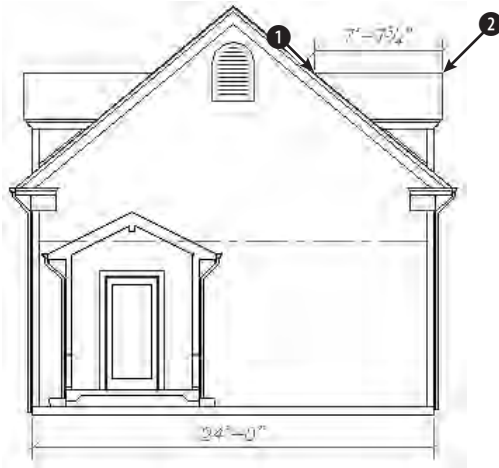

Figure 15-28: The dimension style is now complete.
10. To see how the stacked fractions appear, create a linear dimension from 1 to 2 in Figure 15-28. If necessary, zoom in to see the dimension text clearly.
11. Return to the previous view if you zoomed in. Save your drawing. It should look like Figure 15-28.